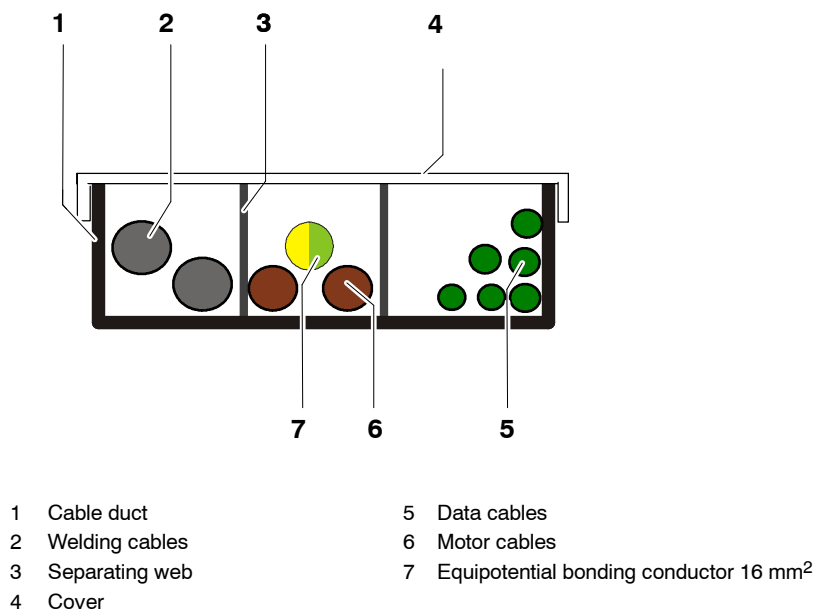

Fig. 89 Routing in cable ducts
- Route the motor cables and the data cables separately in metal ducts (Fig. 89); if necessary, additional measures must be taken to ensure electromagnetic compatibility (EMC).